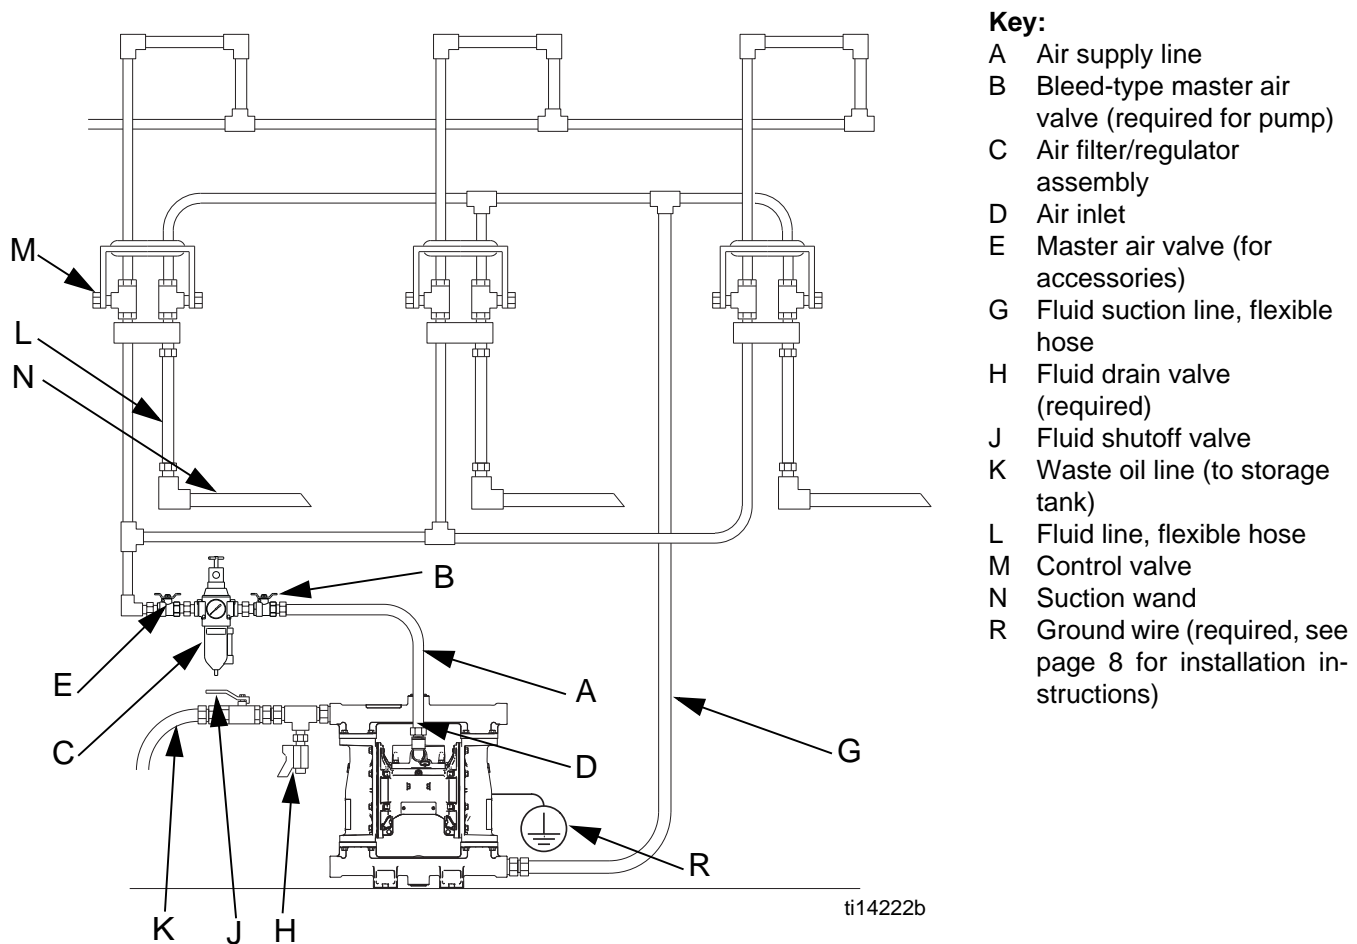

FIG. 4. Gear oil evacuation, typical installation
5. For a Gear Oil Evacuation System, install a control valve (M), flexible hose (L), and an appropriate wand (N) in each service bay and connect to the fluid suction line (G). See FIG. 4, page 12.
See FIG. 4.